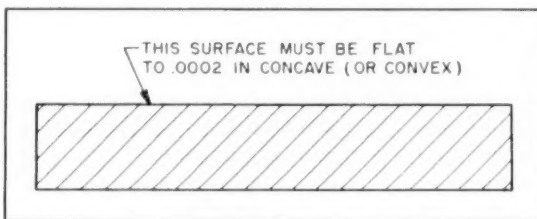

Fig. 16. Flatness tolerances can be covered by a note as shown here.
**Flatness Tolerances**—The tolerance relative to flatness is covered by a note which specifies the direction and amount of deviation from a true plane, as shown in Fig. 16.